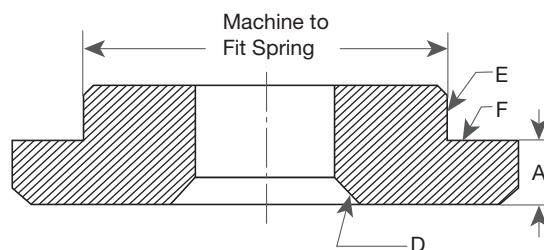

Figure 46: Lower Spring Washer F, G, and H Valves
1. Secure the eductor tube (40) in the base (1) by expanding or swaging into the hole provided. The upper end of the eductor tube should project above the guide surface of the base approximately .125" (3.18 mm) and the lower end should point directly and squarely toward the valve outlet. When the valve is assembled, the hole at the outer edge of the guide flange must fit loosely around the projection of the eductor tube.
2. For F, G and H orifice valves only, machine the new lower spring washer (17) (see Figure 46 and Table 23).
Note: When indicated at surfaces D and E (see Figure 46), run out at surface F is not to exceed .005" (.127 mm) full indicator reading.
Note: When indicated at surfaces D and E (see Figure 46), run out at surface F is not to exceed .005" (.13 mm) full indicator reading.